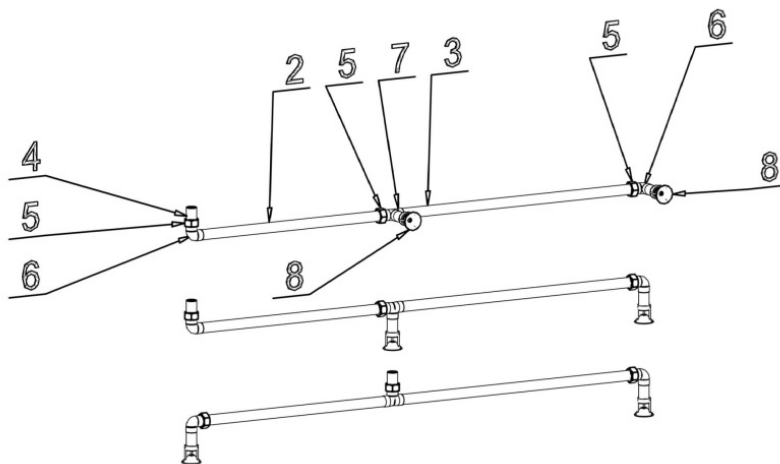

Fig. 4. Examples of "Buran-7STT" pipes mounting.
7.3. The installation of the pipeline (fig 4) should be done with use of sealing material for threaded assemblies.